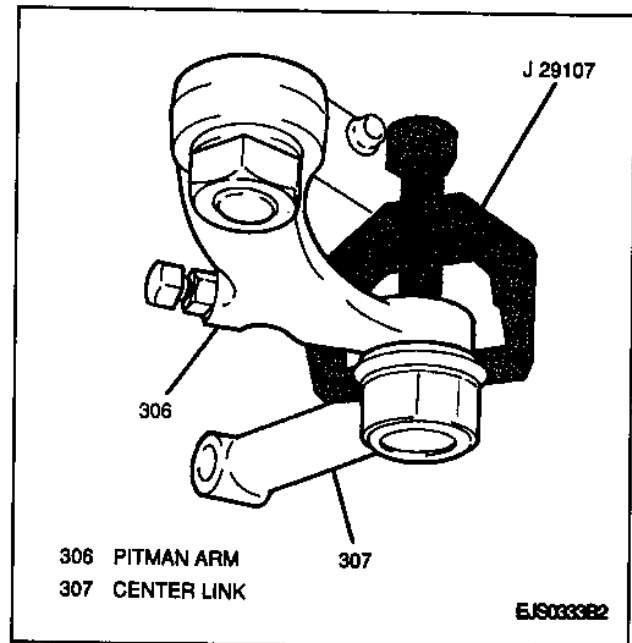

Figure 3—Separating Pitman Arm From Center Link
Figures 3 through 6
5. Separate pitman arm from center link using a J 29107 (Figure 3).